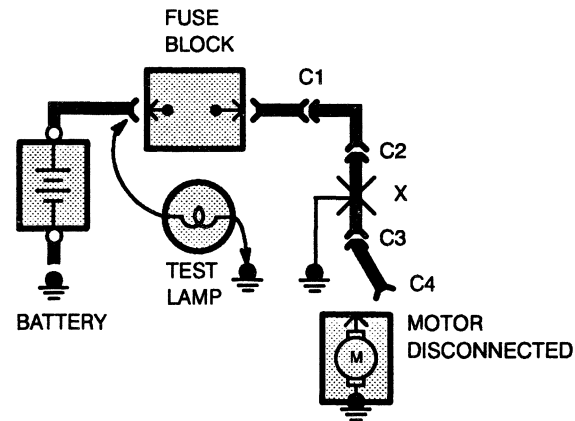

Figure 5—Short Check
A fuse that repeatedly blows is usually caused by a short to ground. It's important to be able to locate a short quickly (Figure 5).
- (Connector C4 in Figure 5)
- 5. Disconnect the test lamp lead that is connected to ground, and reconnect it to the load side of the fuse at the connector of the disconnected component. (In Figure 5, connect the test lamp lead to connector C4.)
- If the Test Lamp goes on, the short is in the wiring. You must find the short by disconnecting the circuit connectors, one at a time, until the Test Lamp goes out. For example, in figure 5 with a ground at X, the bulb goes out when C1 or C2 is disconnected, but not after disconnecting C3. This means the short is between C2 and C3.